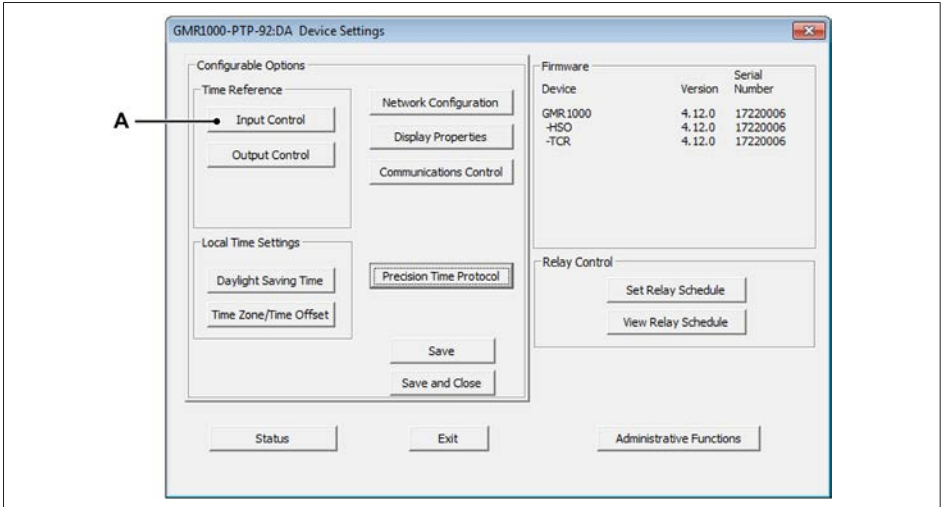

Fig. D.58 GMR1000 PTP Device settings
- Expand the tree in the **Device Configuration Utility** until the specific device is found, which is part of the GMR1000 Master reference -> GMR1000 PTP Server family. Once found, click on the device, this will open the device settings window (see Fig. D.58).